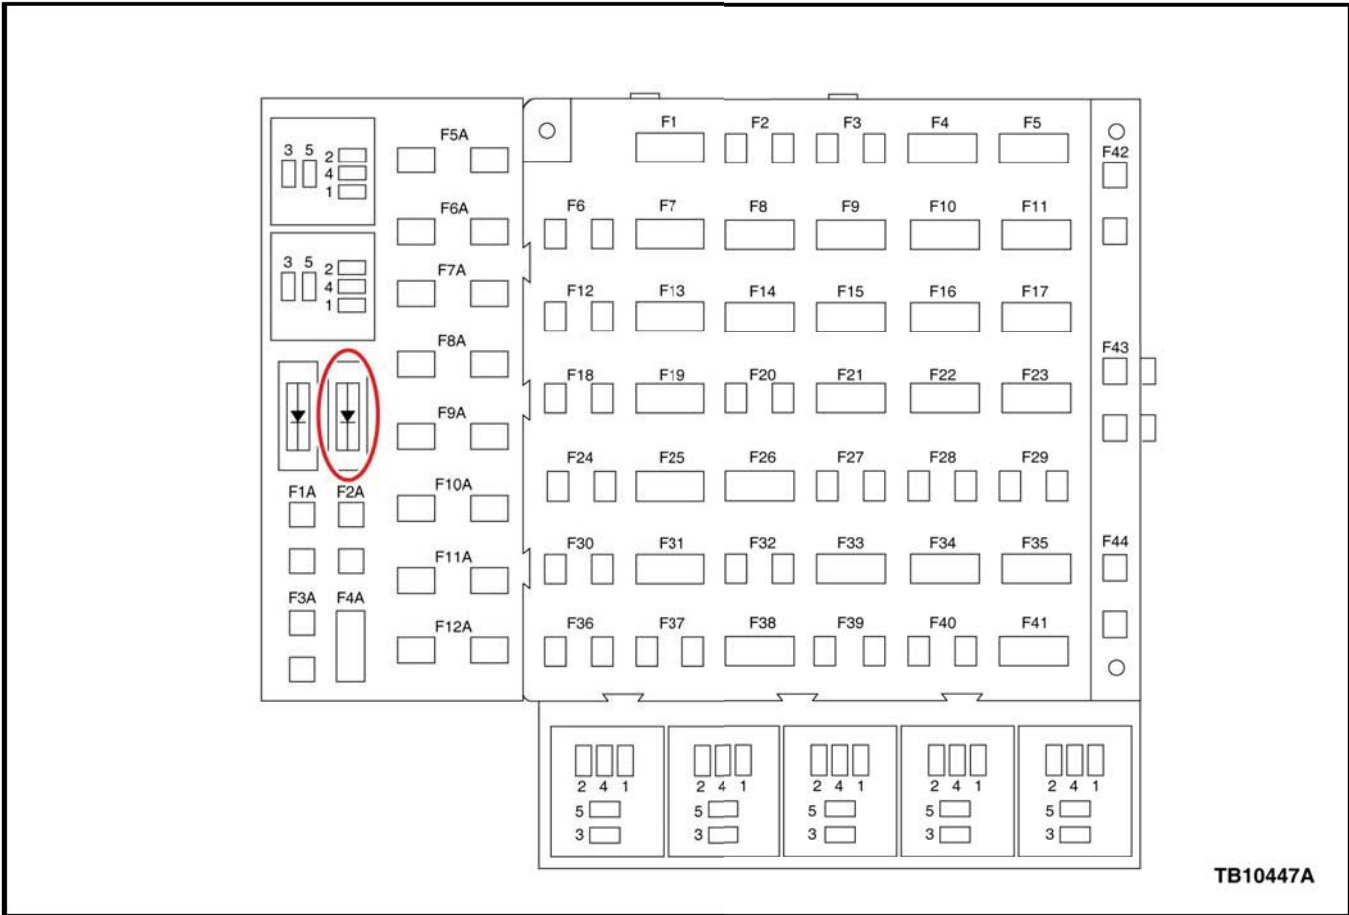

Figure 1 - Article 13-9-1
4. Modify circuit 294, as illustrated. (Figures 1 and 2)